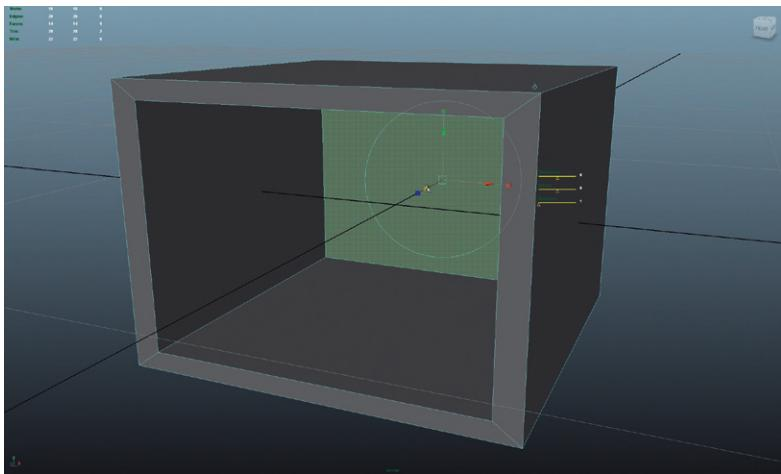

FIG 3.47 Extruding into the form to create the cavern.
Step 4: Finish the drawer cavern with a second extrusion into the cube. Again, choose Polygons > Edit Polygons > Extrude and this time use the Extrude tools' move handles (cones) to move this new extrusion back into the cube (Fig. 3.47).